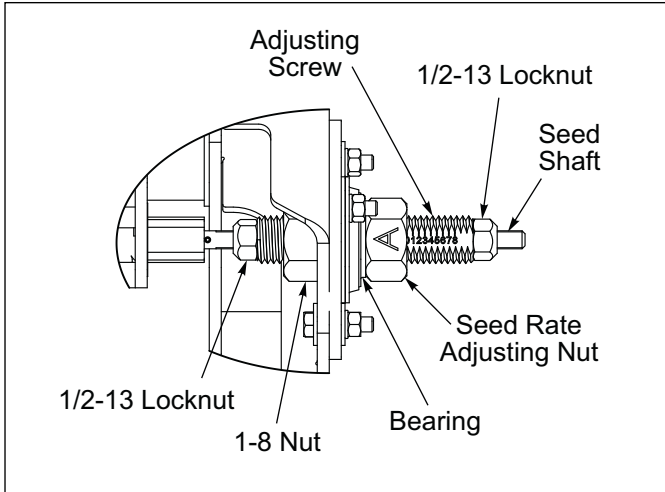

Figure 2-37: Rear Box Seed Rate Adjuster
30. Assemble onto the Rear Seed Box Seed Shaft the Seed Rate Adjusting Screw, 1-8 Nut, Bearing, Seed Rate Adjusting Nut and 1/2-13 Locknut. Place Bearing between Flangettes and attach to Bearing Carrier with 5/16-18 x 1 Bolts, Lock Washers and Nuts. See Figures 2-37 and 2-38.